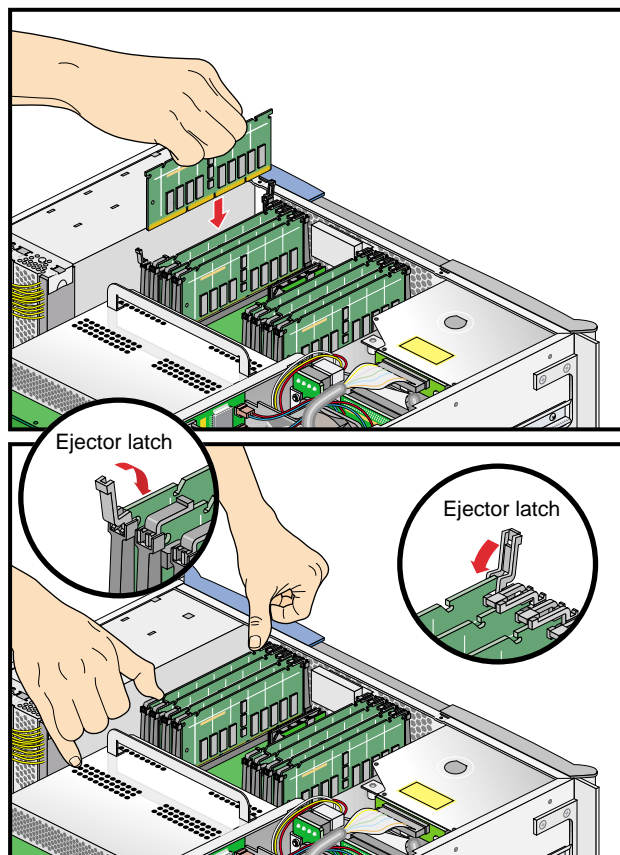

Figure 6-27 Inserting a DIMM
7. Install the DIMM, as follows (see Figure 6-27):
- e. Gently push the plastic ejector latches down to secure the DIMM, as shown in Figure 6-27. When the DIMM is fully seated in the connector, the ejector latches snap into place.